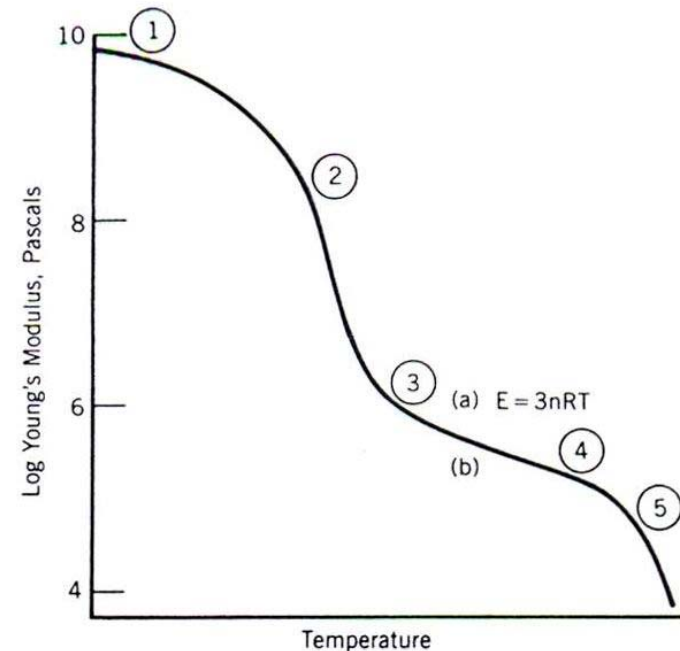

Figure 1.6
- At low temperatures, only vibrational motions are possible, and the polymer is hard and glassy (**Figure 1.6, region 1**) (7). In the glass transition region, **region 2**, the polymer softens, the modulus drops three orders of magnitude, and the material becomes rubbery.
- In general, Young's modulus of elastomers in the **rubbery-plateau** region is higher than the corresponding linear polymers, and is governed by the relation  $E = 3nRT$ , in **Figure 1.6**.